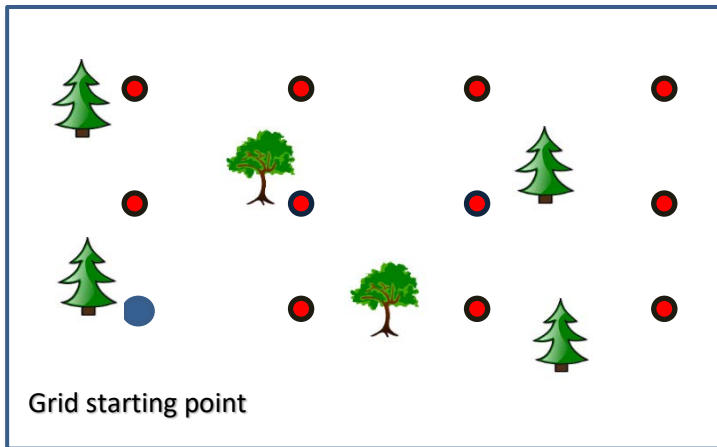

Figure 15. How to lay out a sampling grid
With Form 1, attach a diagram showing the property dimensions and decision units. For multiple decision units, attach a separate diagram for each, with dimensions and showing the location of any wetlands and wetland buffers. For each decision unit diagram, prepare a sampling grid (Figure 15).
Step 3: Start with this point and begin laying out sample points in a grid. Whenever possible, lay the grid in an evenly spaced pattern (Figure 15). Use the number of locations from Table 7. Grid points should cover as much area as possible. Adjust the grid or add locations to make it fit.